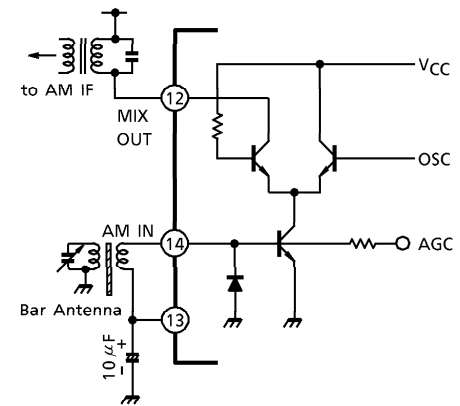

Fig.2
**(3) AM input stage**
The terminal pin⑭ is the AM input terminal which is the base of common-emitter transistor. And this transistor is the current source of the Mixer which is composed of emitter coupled pair transistors. (Fig.2)
**(4) AM-IF input stage**